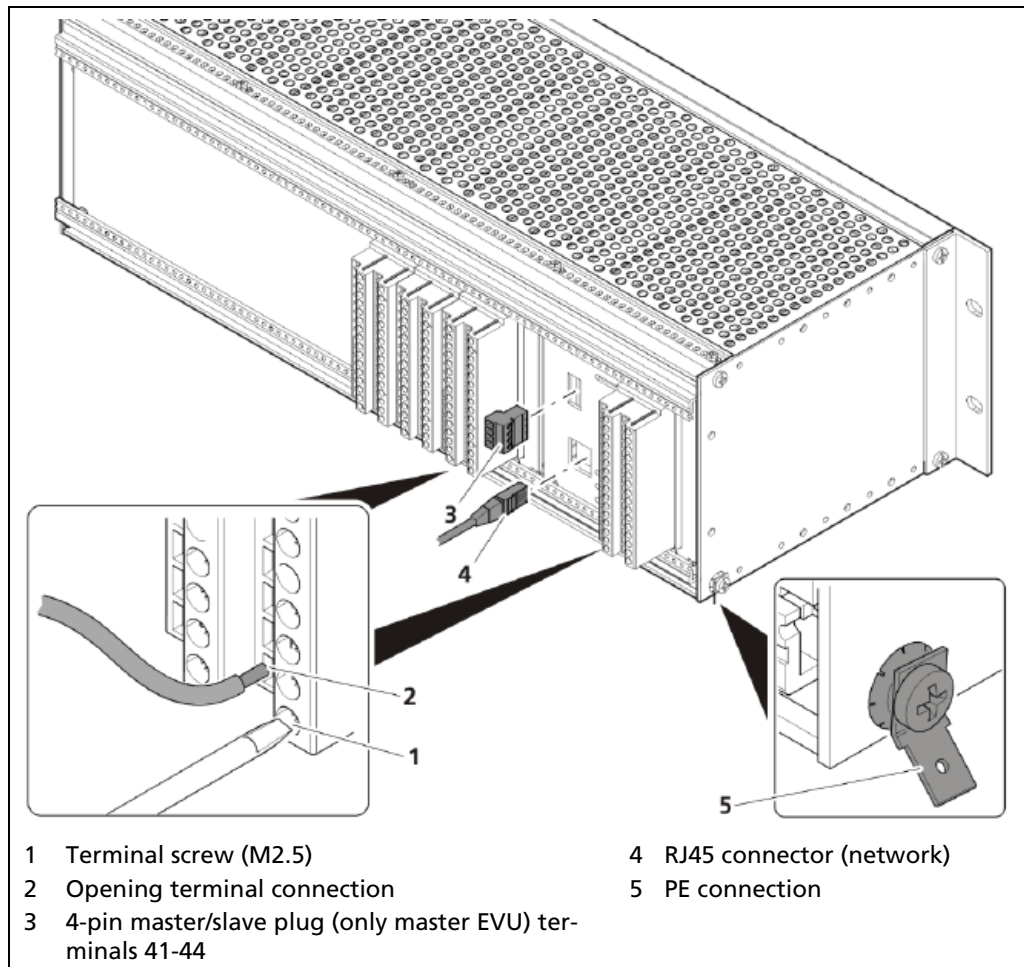

Fig. 13 Electrical connection in the 19" component rack
3. Open the terminal screw (Fig. 13, item 1) and insert the stripped wire (min. 8 mm).
6. Plug the network plug into the RJ45 socket (Fig. 13, item 4) (optional).
7. Check the correct connection of the PE conductor (Fig. 13, item 5).